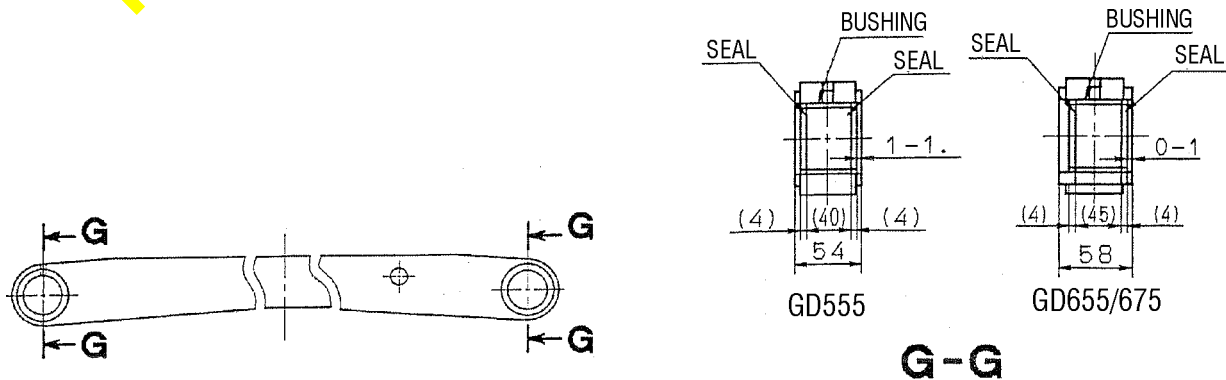

Fig. 3
- Refer to Fig. 3 regarding the installation procedure for the seal (6).
Install the dust seal referring to Fig. 3 shown below.